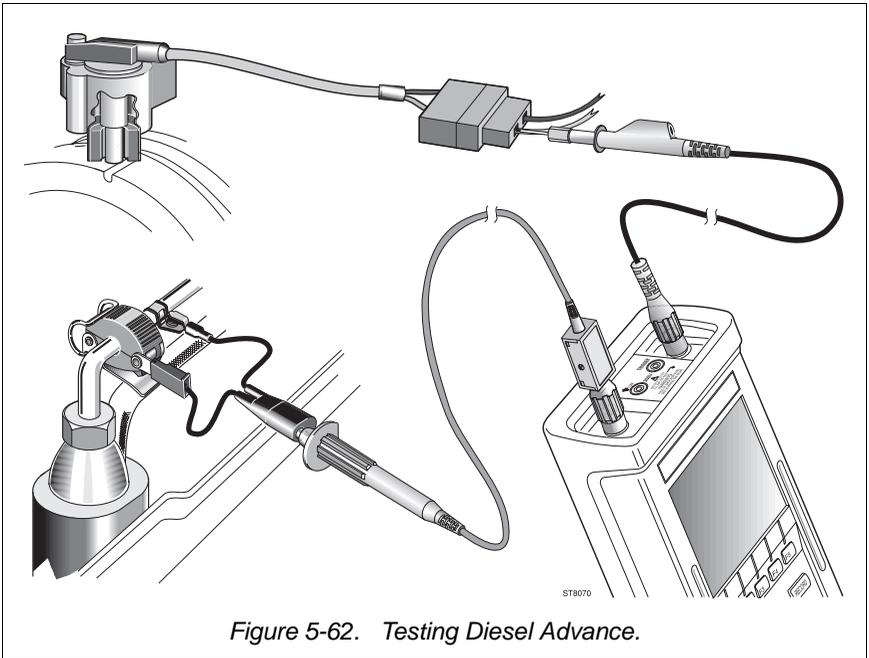

Figure 5-62. Testing Diesel Advance.
The piezo pickup is clamped on the fuel line of the first cylinder, close to the injector and connected via the blue filter probe to INPUT A. (See Figure 5-62).
④ Connect the test leads as displayed by the test tool's Connection Help and shown in Figure 5-62.